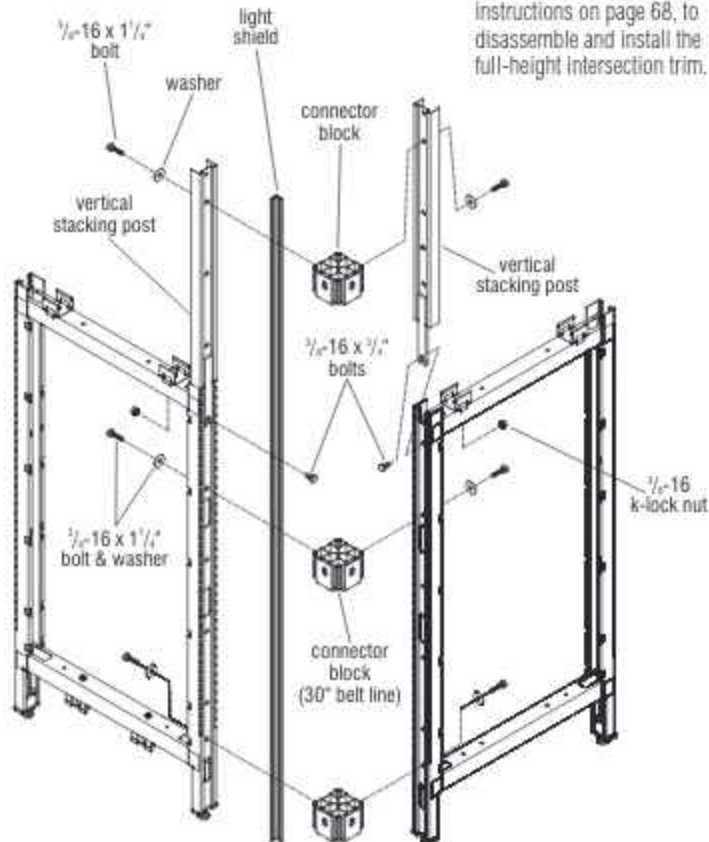

Figure 9 - Stacking Sections (aluminum frame) - Full-Height Intersection
**Note:** Stacking sections - full-height intersections are specified/ordered at time of original space planning and come with full-height light shield, full-height vertical intersection trim and three connector blocks as illustrated (Figure 9).
The steps below and Figure 9 above illustrate the full-height stacking intersection connection, as ordered at time of space planning.
1. Install the vertical stacking posts to the top of panel frames at the intersection using  $\frac{3}{8}$ -16 x  $\frac{3}{4}$ " hex head bolts and  $\frac{3}{8}$ -16 k-lock nuts (Figure 9).
3. Attach the second panel frame and vertical stacking post assembly to the installed connector blocks of the first panel frame using  $\frac{3}{8}$ -16 x  $1\frac{1}{4}$ " hex head bolts and large flat washers (Figure 9).
4. Tighten all  $\frac{3}{8}$ -16 x  $1\frac{1}{4}$ " hex bolts securing panel frames to connector blocks at the intersection. Tighten the  $\frac{3}{8}$ -16 x  $\frac{3}{4}$ " hex head bolts to k-lock nuts, securing the vertical stacking posts at the intersection. Twist the height-adjustable glides in or out to level the panel frames (Figure 9).